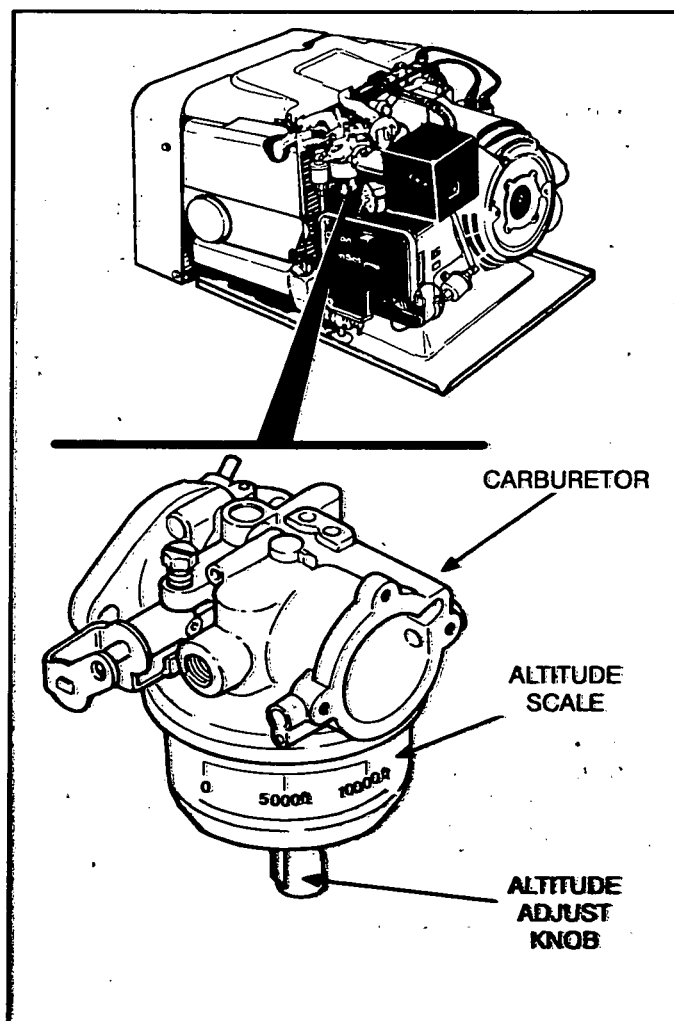

FIGURE 7. CARBURETOR ALTITUDE ADJUST KNOB
3. Set the altitude adjust knob (Figure 7) for your altitude.
5. Set the altitude adjust knob (Figure 7) for your altitude.
For best fuel economy and genset operation set the carburetor altitude adjust knob (Figure 7) for the altitude of the lake or river. (See *Powering Equipment*) for information on how altitude affects the maximum power output of the genset.)